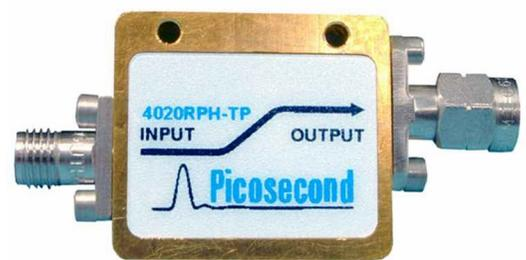

**Fig. 2** Differential Triggering Set-Up
**DIFFERENTIAL TRIGGERING:** The 4022 consists of two identical 4020 pulse modules housed in a single cabinet. Thus, there are two independent trigger inputs and two independent remote pulse head driver outputs. For generating differential pulses, both of the 4022's trigger inputs need to be driven. See Figure 2 for the recommended arrangement. A 1 Volt input trigger pulse is split into two identical, 500 mV pulses by the 6dB Tee, Power Divider. The PSPL model 5331 is recommended for this application. Identical lengths of short, SMA cable are then used to connect the 6dB tee outputs to the 4022 trigger inputs. These are located on the 4022's rear panel. While both channels of the 4022 are rather closely matched in terms of throughput delay, they are not absolutely identical. Thus PSPL recommends that the user also insert a pair of SMA phase adjusters on the trigger inputs. (PSPL uses Coaxicom model 3993-1.) To achieve the ultimate differential performance, the outputs from the positive and negative pulse heads should be phase matched to  $< 1$  ps. This is easily accomplished using the Coaxicom phase adjusters.
the oscilloscope's trigger and then inserting a fixed length of good quality, coax cable between the pick-off tee and the 6dB Tee. See Figure 2. A suitable pick-off tee is the PSPL model 5370. The throughput delay of the 4022, including its pulse heads and interconnecting cables, is typically 5.5 ns. Use only enough additional delay cable, DL 1 in Figure 2, to provide the required pre-trigger delay for the oscilloscope. For example, the 70 GHz, 5ps, Tektronix oscilloscope used for the examples here requires 19 ns pre-trigger delay.
Figures 5 and 6 show the resultant step waveforms. The cyan traces are the V+ and V- pulse outputs. The black trace is the differential voltage waveform (Vdiff = V+ - V-). Figure 5 is with no offset voltage applied to the bias tees. For proper testing of logic devices, the proper offset voltages need to be applied to the bias tees to position the positive and negative polarity waveforms as shown in Figure 6. No attenuators were used for Figures 5 and 6. Typical max. amplitude values are 2.5 V for V+ and V- and 5 V for Vdiff. The V+ risetime, V- falltime, and Vdiff risetime all are < 10ps. It should be noted that it is extremely important to have the positive and negative waveforms precisely phase matched at the 50% crossing level. Any phase offset will translate immediately into an equal slowing of the differential signal's risetime. This phase adjustment is easily performed using the Coaxicom phase adjusters (see Figure 2).